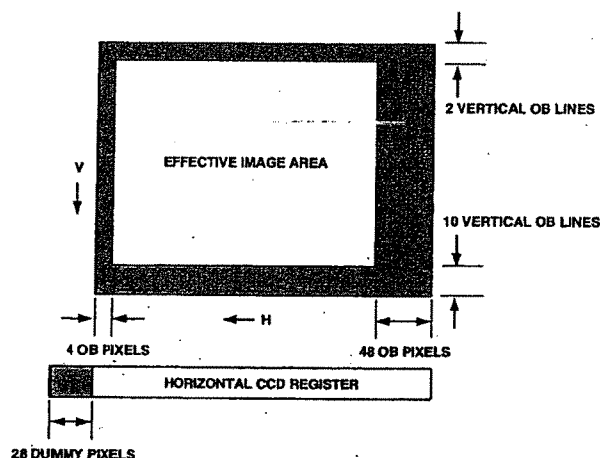

Figure 13. Example CCD Configuration
Figure 13 shows an example CCD layout. The horizontal register contains 28 dummy pixels, which will occur on each line clocked from the CCD. In the vertical direction, there are 10 optical black (OB) lines at the front of the readout and two at the back of the readout. The horizontal direction has four OB pixels in the front and 48 in the back.